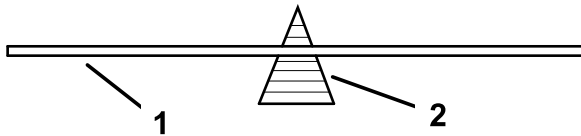

Figure 39
2. For straight blades only, check the balance of the blade by putting it on a blade balancer (Figure 39).